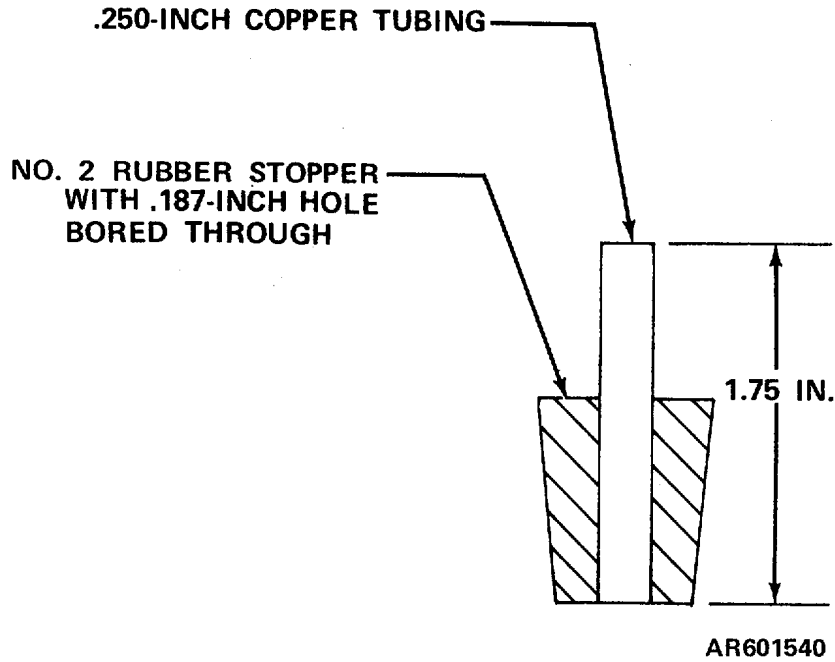

Figure 1. Fabrication instructions for connector (B4).
**5. Accessories Required.** The accessories listed in table 3 are issued as indicated in paragraph 4 above except for one which is fabricated as shown in figure 1. All are to be used in this calibration procedure. When necessary, the items other than the one fabricated may be substituted by equivalent items.